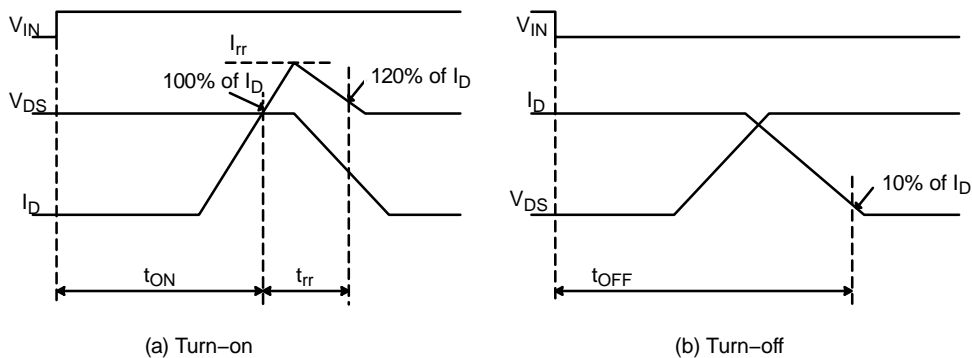
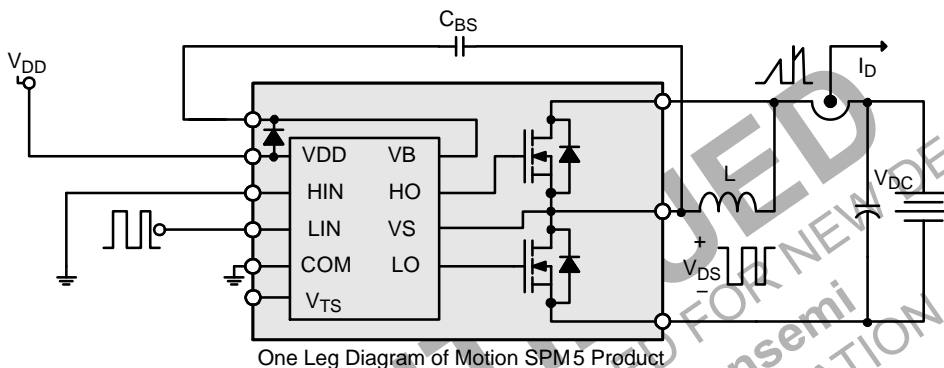

Figure 6. Switching Time Definitions
Figure 7. Switching and RBSOA (Single-Pulse) Test Circuit (Low-side)
- $t_{ON}$  and  $t_{OFF}$  Include the Propagation Delay Time of the Internal Drive IC. Listed Values are Measured at the Laboratory Test Condition, and They Can be Different According to the Field Applications Due to the Effect of Different Printed Circuit Boards and Wirings. Please see Figure 6 for the Switching Time Definition with the Switching Test Circuit of Figure 7.